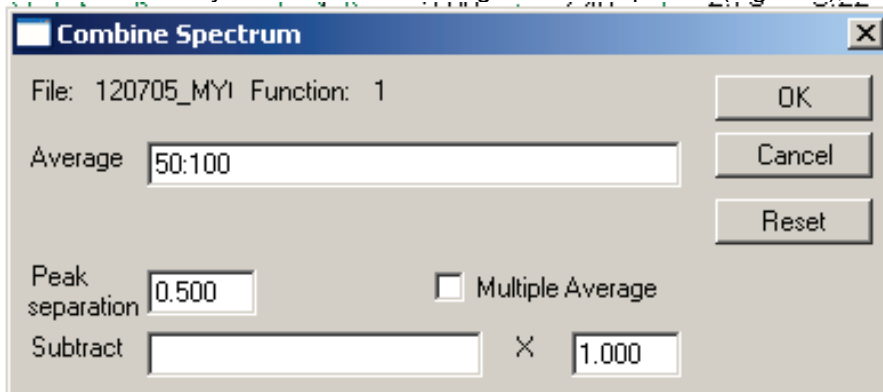

Figure 4): Screen shot of the Combine/Integrate spectra process menu of MassLynx software
6. Combine necessary amounts of scans to get a better spectra. (Figure 4).
12. Combine necessary amounts of scans to get a better spectra (Figure 4),